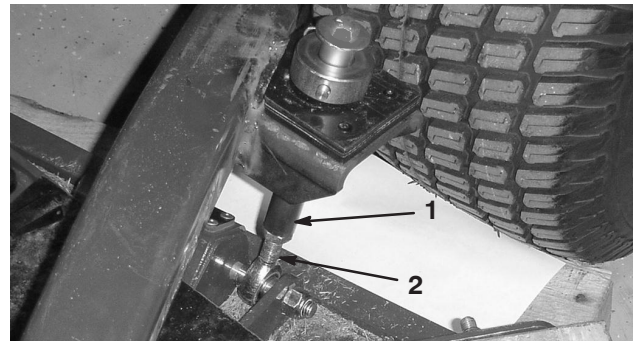

Figure 14
- Loosen the jam nuts on the bottom of the height-of-cut rods (Fig. 14).